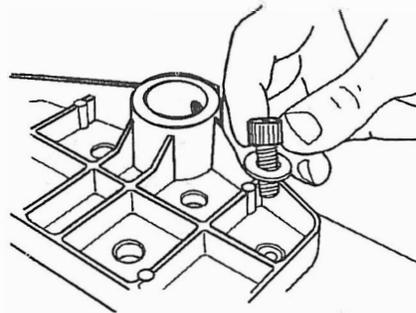
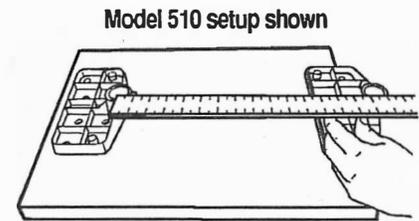

Fig. A-17
Fig. A-18
**16.** Attach each table support with two  $7/8$ " long cap screws (33) and two flat washers (2), as demonstrated in Fig. A-17. Finger tighten. Use a ruler to check the distance from center of each post hole, as seen in Fig. A-18. It should be  $15\text{-}1/2$ " for the Model 510 and 12" for the Model 500.